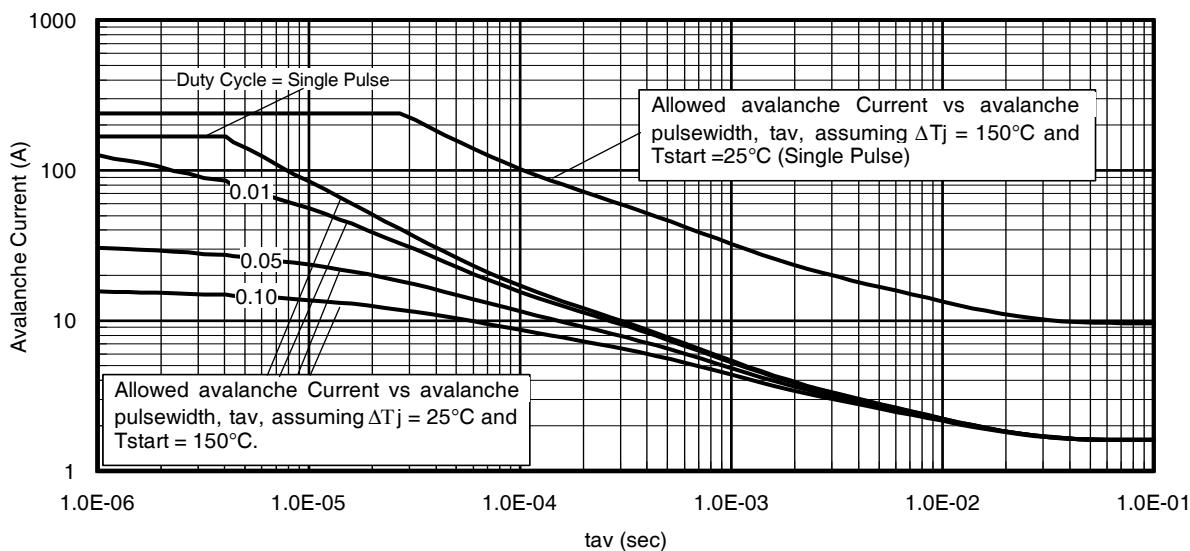

Fig 14. Typical Avalanche Current vs.Pulsewidth
Notes on Repetitive Avalanche Curves , Figures 14, 15:
7.  $\Delta T$  = Allowable rise in junction temperature, not to exceed  $T_{jmax}$  (assumed as  $25^{\circ}\text{C}$  in Figure 14, 15).